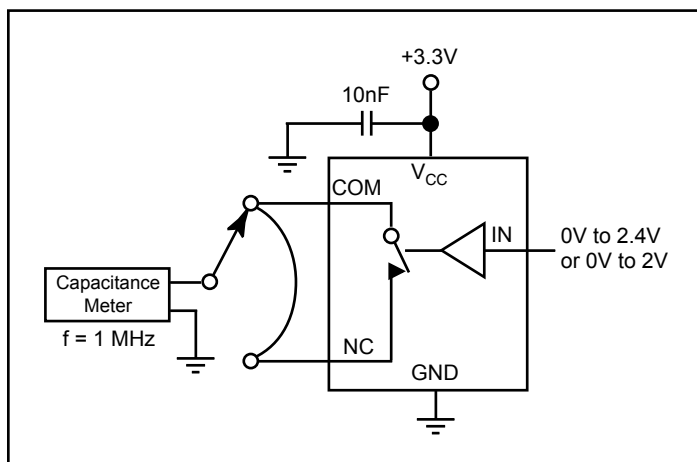

Figure 5. Channel-Off Capacitance
8. Between any two switches. See Figure 5.